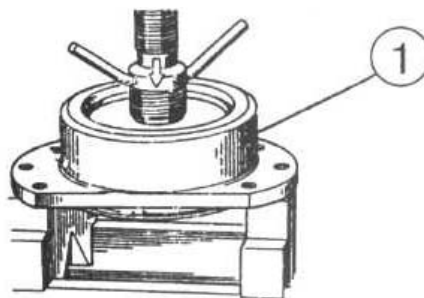

Figure 4.76
e) press off cup 1 (Figure 4.76) external bearing shell;